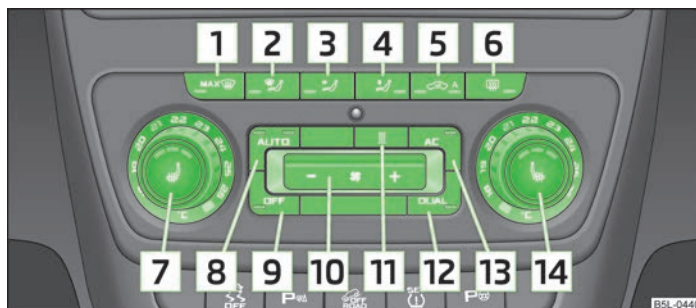

Fig. 91 Climatronic: Control elements
- › (AC) 13 » Fig. 91 on page 86 switched on.
- › Press the button (AUTO) 8 » Fig. 91 on page 86.
- Press the button (AUTO) **8** ➤ Fig. 91 on page 86. The indicator light in the top right or left corner lights up, depending on which mode was last selected.
- Press the button (AC) ➤ Fig. 91 on page 86. The indicator light lights up in the button.
- When you again press the button (AC), the air conditioning system is switched off. The indicator light in the button goes out. Only the function of the ventilation remains active when no lower temperature than the outside temperature can be reached.
- The temperature for both sides can be set with the control dial **7** ➤ Fig. 91 on page 86 after switching on the ignition.
- Repeatedly press the button (↻) **5** ➤ Fig. 91 on page 86 until the indicator light on the left side of the button is illuminated.
- If the windscreen mists up, press the button  **1** » Fig. 91 on page 86. Press the button  when the windscreen is demisted.
➤ Repeatedly press the button  » Fig. 91 on page 86 on the left side (reduce blower speed) or on the right side (increase blower speed).
- Press the button  **1** » Fig. 91 on page 86.
- Press the button  **11** » Fig. 91 on page 86.
- Press the button  **1** » Fig. 91 on page 86 again or press the button  **8** .
- Press the button  **11** » Fig. 91 on page 86 again.